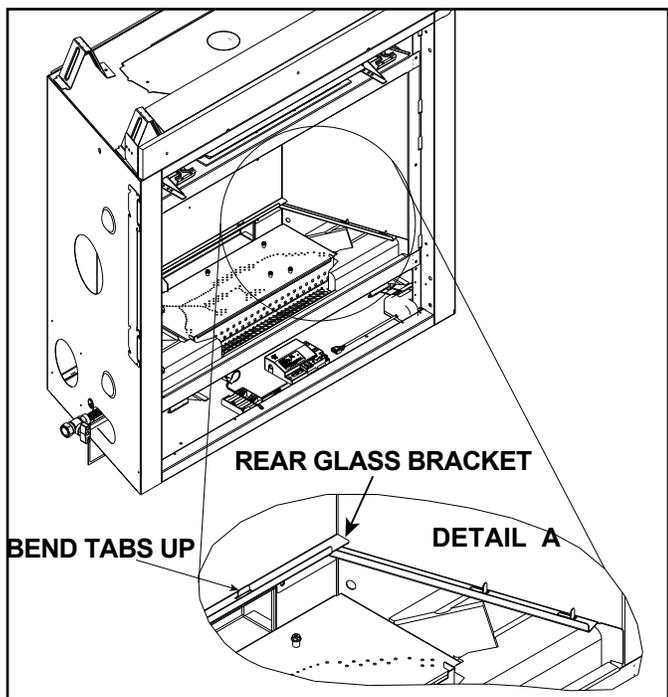

Figure 4. Bend Tabs on Lower Side and Rear Glass Brackets
5. Remove the new rear lower glass bracket from the packaging and bend the hand bend features “up” to about 45 degrees. See Figure 4. Install the new rear lower glass bracket with screws removed in Step 3.
**Note:** The new lower glass bracket spans the entire width of the back wall of the firebox and rests above the side lower glass brackets. See Figure 4, Detail A.